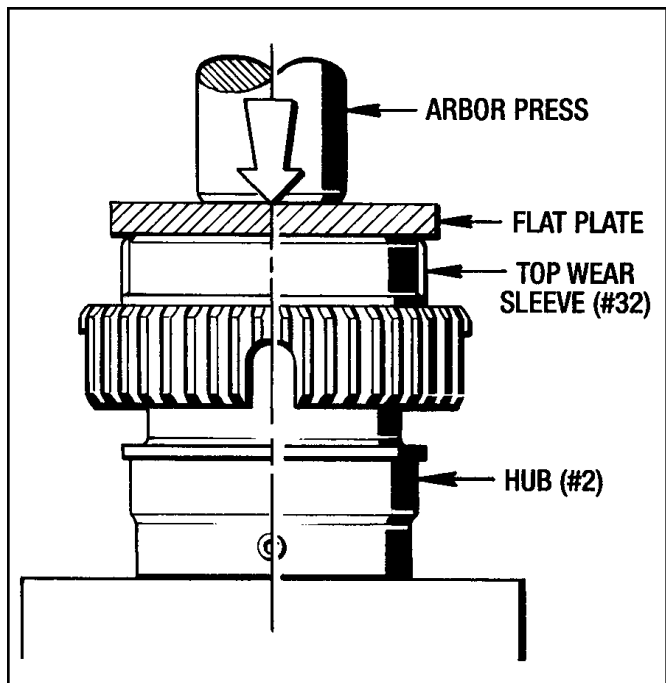

Figure 9.1 - Installing Top Wear Sleeve (#32)
1. Apply **Red Loctite #271** to the hub diameter and press the top Wear Sleeve (#32) on to the Hub (#2) with an arbor press as shown in *Figure 9.1*. Clean off any excess adhesive.